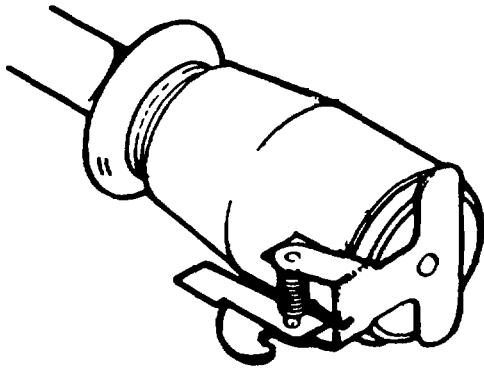
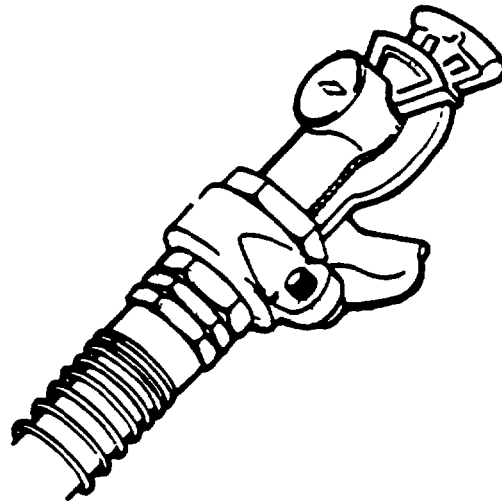

Figure 2-1. Electrical Plug
Figure 2-2. Air Hose Glad-Hand Connectors
**2-1. CONTROLS AND INDICATORS (TRAILER).** (Army) The only indicators on the flatbed trailer are the stop lights, tail lights, and the blackout light. These lights are powered and controlled from the towing vehicle through a trailer cable. The plug on the cable (fig. 2-1) and the receptacle makes the system operational. The two air hoses connect to the towing vehicle brake system with glad-hand connectors (fig. 2-2). When the trailer is not connected to the towing vehicle, the connectors are stowed on dummy couplers on the trailer to prevent damage and contamination.